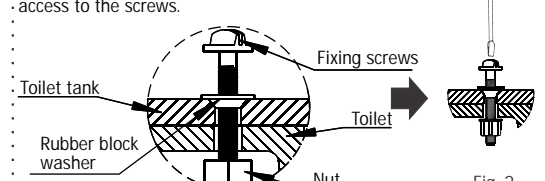

Fig. 2
**2** Next align the box bores with the toilet and then insert the screws (they come along with the toilet tank). The bolt must be kept locked with the screw driver; thread the nut up to the point it touches the toilet. Holding the nut with your hands is not necessary. Check Fig. 2. We recommend the use of a 1/2" x 12" screw driver.